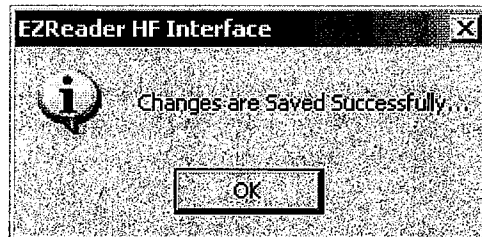

Figure 13
9.8.4 You should get a acknowledgement that “Changes are Saved Successfully” as in Figure 13